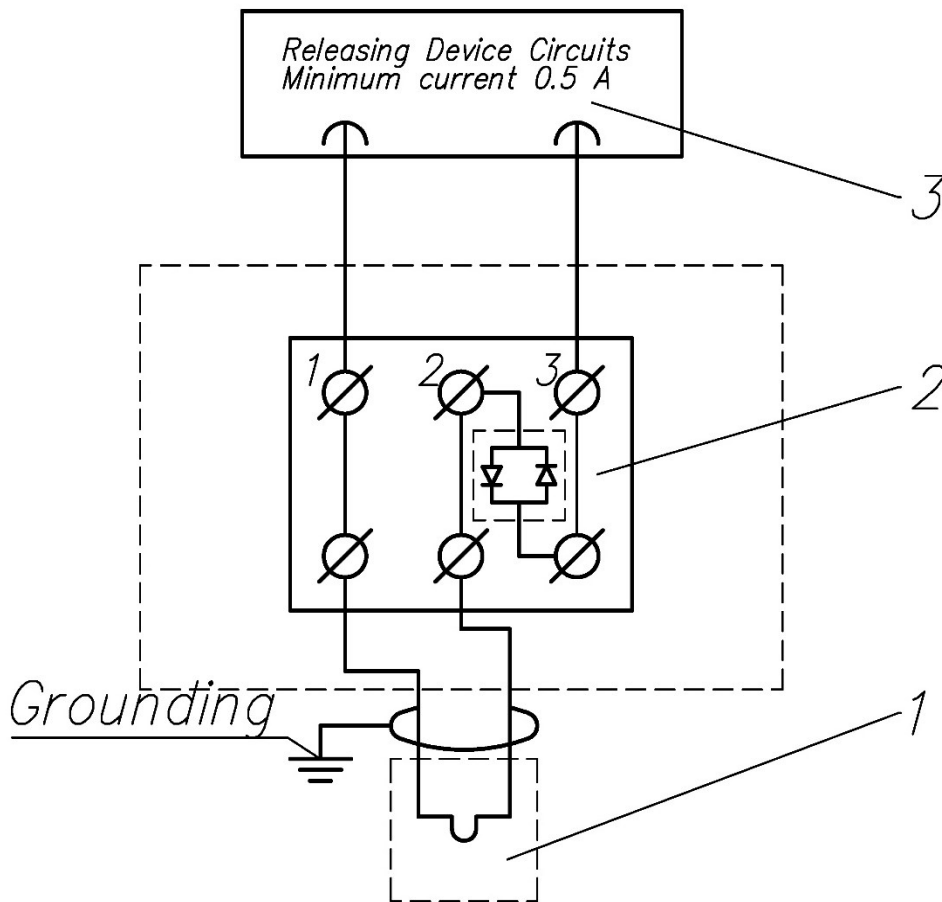

Fig 3. Module connection scheme.
8.9. Connect the launching unit circuit to the control device of the fire-extinguishing system. Fig. 3 shows the connection scheme of the module to the automatic launching unit «C2000-KPB».